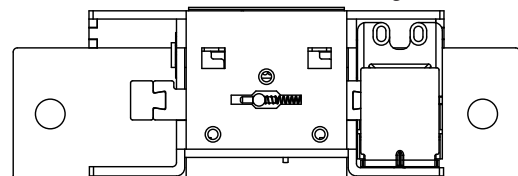

Figure 6.2
- Remove the tiny spring, shift the slider to the other side, and reinsert the spring. By-default the spring must be located to the Left Hand Side (Fail - secure mode) (See Figure 6.2)